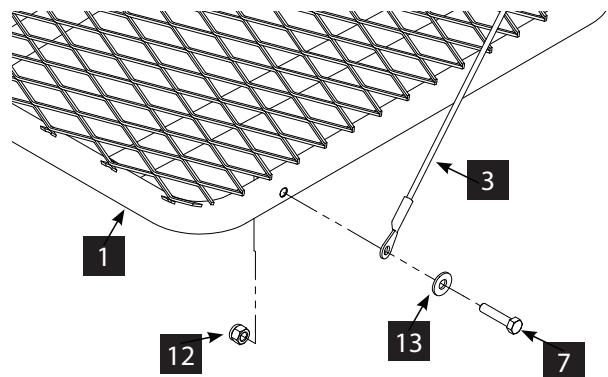

FIGURE 2
2. Attach the removable seat pad (5) to the metal seat frame (2) by sliding seat frame into pocket. Wrap the seat's hook and loop attachment straps or buckle straps around seat frame and secure together. Snap the side release buckle together for buckle style seats. Pull straps tight so seat is not loose.
3. Attach cables (3) onto the platform (1) using two 5/16-18 X 1-1/2 IN bolts (7), two 5/16 IN washers (13) and two 5/16-18 locknuts (12). **SEE FIGURE 2.**